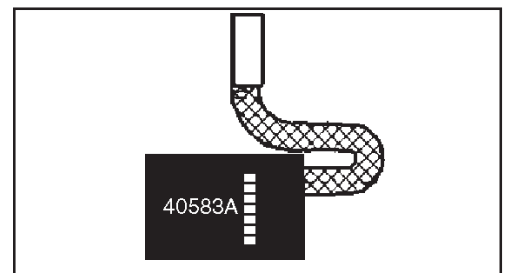

Figure 11
2. Inspect the carbon brushes. Replace both brushes if either brush has worn to 3/8" in length, or is worn to the wear indicator. See figure 11.